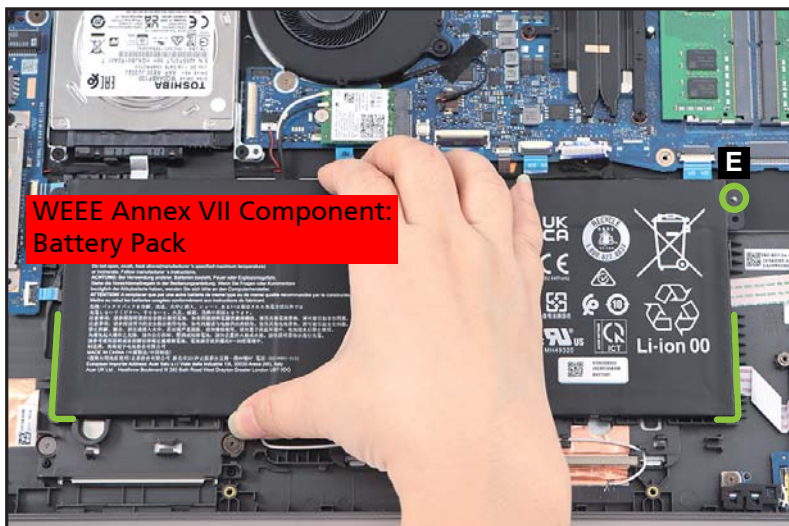

Figure 1-8. Battery Pack Removal
5. Lift to release the battery pack from the guide pin (E) and guide studs (highlighted by green lines) (Figure 1-8). Then remove the battery pack from the top assembly.